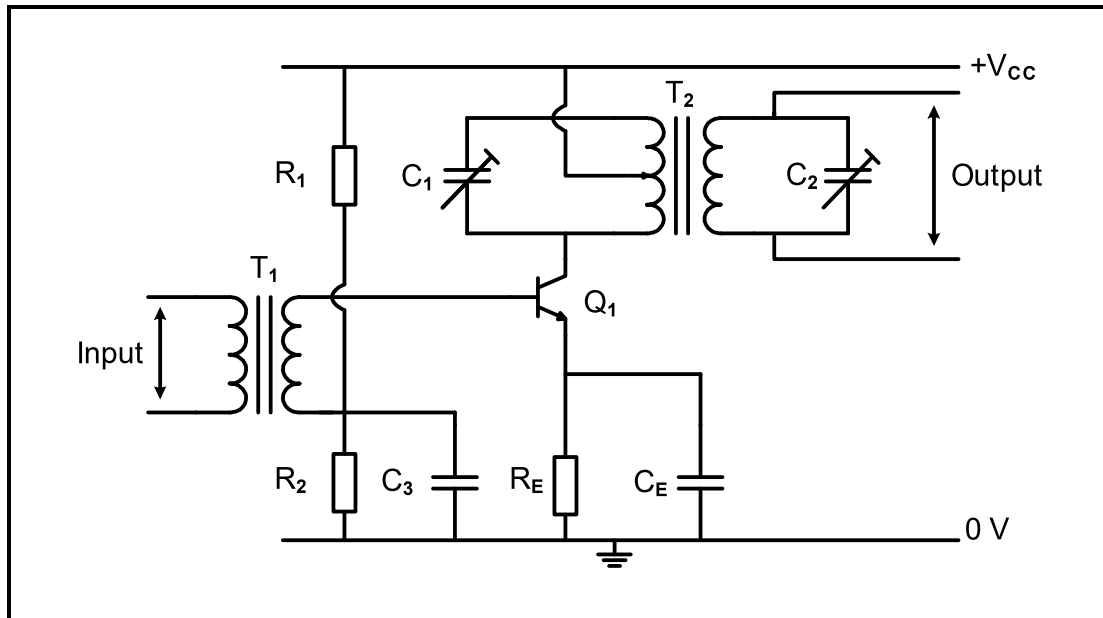

FIGURE 6.9: AMPLIFIER CIRCUIT DIAGRAM
6.9 Refer to FIGURE 6.9 below and answer the questions that follow.
- 6.9.1 Identify the amplifier circuit diagram in FIGURE 6.9 above. (1)
- 6.9.3 The gain of the amplifier circuit in FIGURE 6.9 above is 26 dB when the input power is 27 mW. Calculate the output power of the circuit. (3)